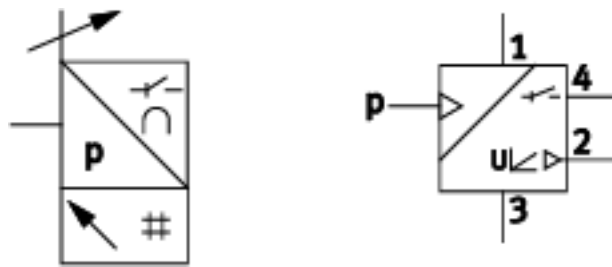

Figure 2.12: A Pressure Sensor (Switch) and its Symbol.
- **Symbol:** The symbol, shown in Figure 2.12, combines the symbol for pressure and the symbol for an electrical switch.